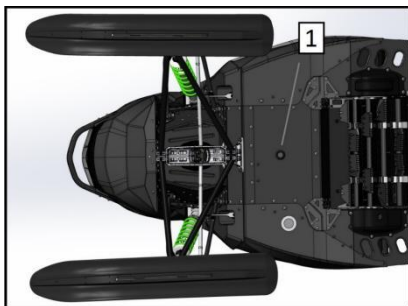

Fig. 8
4. Take out the rubber cork at the bottom (posture 1, figure 8).